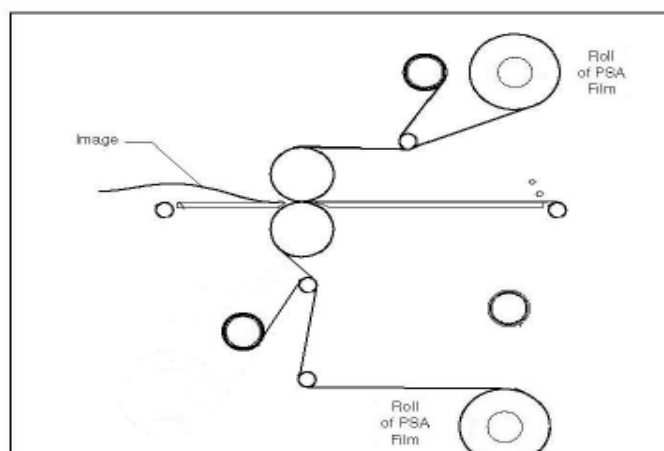

Fig. 36
TIPS FOR PSA ENCAPSULATION (Figure 36)
1. Load the laminator as illustrated in Figure 36.